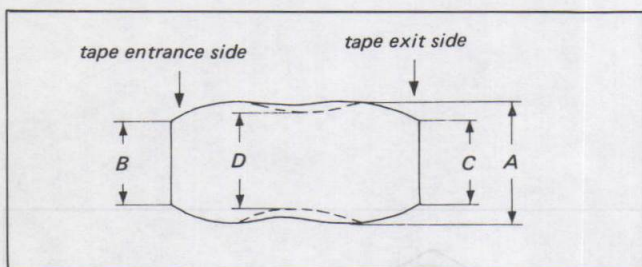

Fig. 4-2.
- 5) Confirm that the RF output waveform is flat, with maximum amplitude. (The waveform should increase and decrease, remaining flat, when the tracking control knob is turned back and forth.) Also, when the waveform is maximum, confirm that the RF output waveform variation and contact satisfy the specifications shown in Fig. 4-2. If they do not meet the specifications, follow the instructions in 6).